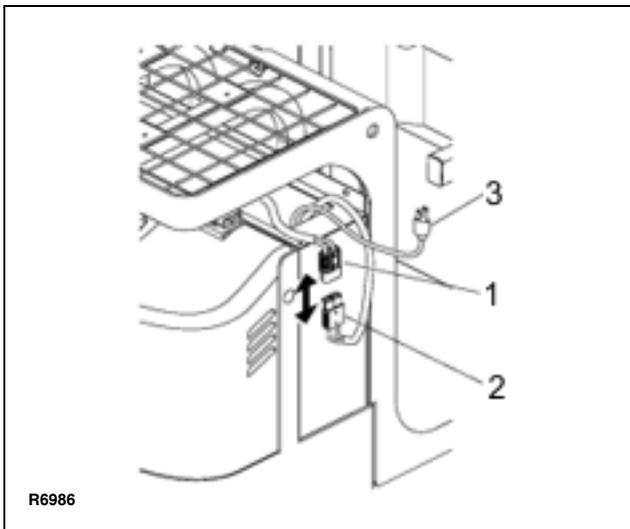

Figure 2-1 Battery Charging
4. Disconnect plug (1, Figure 2-1) from the vehicle and connect it to charger's plug (2).
5. Connect cord (3) and charge the battery according to Supplement 374 *.